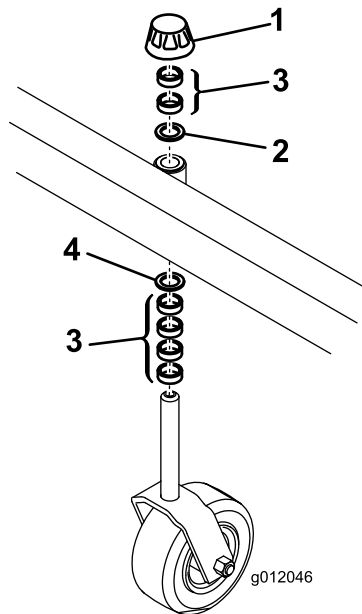

Figure 21
2. Remove cap securing castor spindle to frame bracket (Figure 21).
3. Move desired amount of spacers to top or bottom of bracket (Figure 21). Make sure spacers are equal on both castor wheels and a thrust washer is positioned on each side of frame bracket
4. Install cap and lower broom (Figure 21).